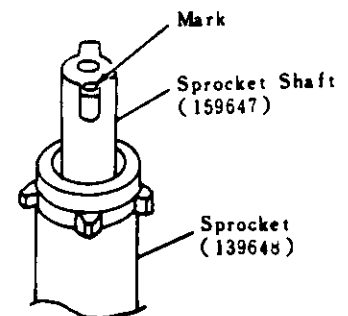

Fig 26
- b) Install Sprocket Shaft (159647) in Sprocket (156648) in the position as shown (Fig 26) and set in into the camera body while mark of sprocket Shaft is face of film rail plane.